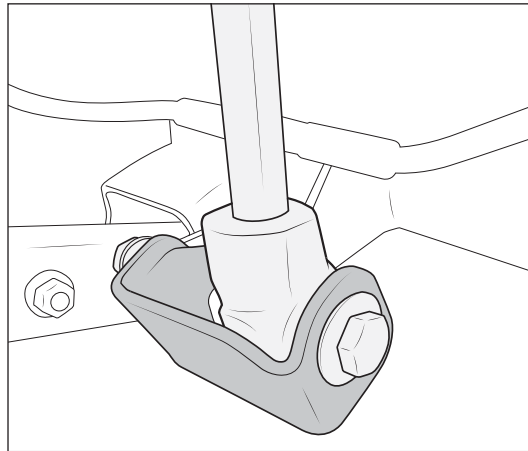

Figure 5
5. Install M12x120mm bolt and washer from outside of bracket, through shock bushing sleeve, and through the rest of the factory shock mount and AEV outboarding bracket. Loosely install nut on in-board side of both brackets (fig. 5).